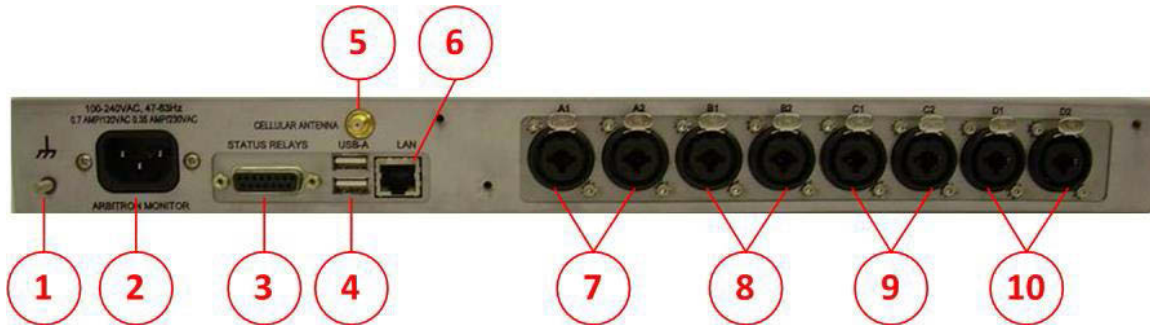

Figure 2: MCEM Monitor Rear Panel
The rear panel is pictured in Figure 2, and the rear panel features are described below:
The MCEM monitor is capable of monitoring up to eight channels of analog audio input. The physical inputs in the rear panel are organized into four *channel pairs*, each comprised of a left and a right channel (Figure 2). The inputs for these channel pairs are labeled on the back panel of the unit as follows:
- b. Connect an RJ-45 Ethernet cable to the rear-panel Ethernet port (item 6 in Figure 2).
- a. Connect an Ethernet crossover cable to the rear-panel Ethernet port (item 6 in Figure 2).
- b. Connect the male plug on a DA-15 cable to the female DA-15 port on the encoder rear panel (item 7 in Figure 2).
- a. Connect a cable to one of the USB 2.0 type A ports on the monitor rear-panel (item 8 in Figure 2). Either use a USB-to-serial cable, or attach a USB-to-serial adapter at one end of the cable.
9. **Optional:** If the monitor is to communicate with Nielsen via cellular network, connect the cellular antenna provided with the unit to the rear-panel cellular antenna port (item 9 in Figure 2).
10. **Optional:** Connect an electrical ground wire (not provided with the unit) from the ground post (Item 1 in Figure 2) to the rack.
11. Connect the female end of the power cord to the socket labeled Item 2 in Figure 2. Connect the male end of the power cord to a grounded power source. The monitor turns on when the power cord is plugged in. The LCD screen displays text and the LEDs light green.